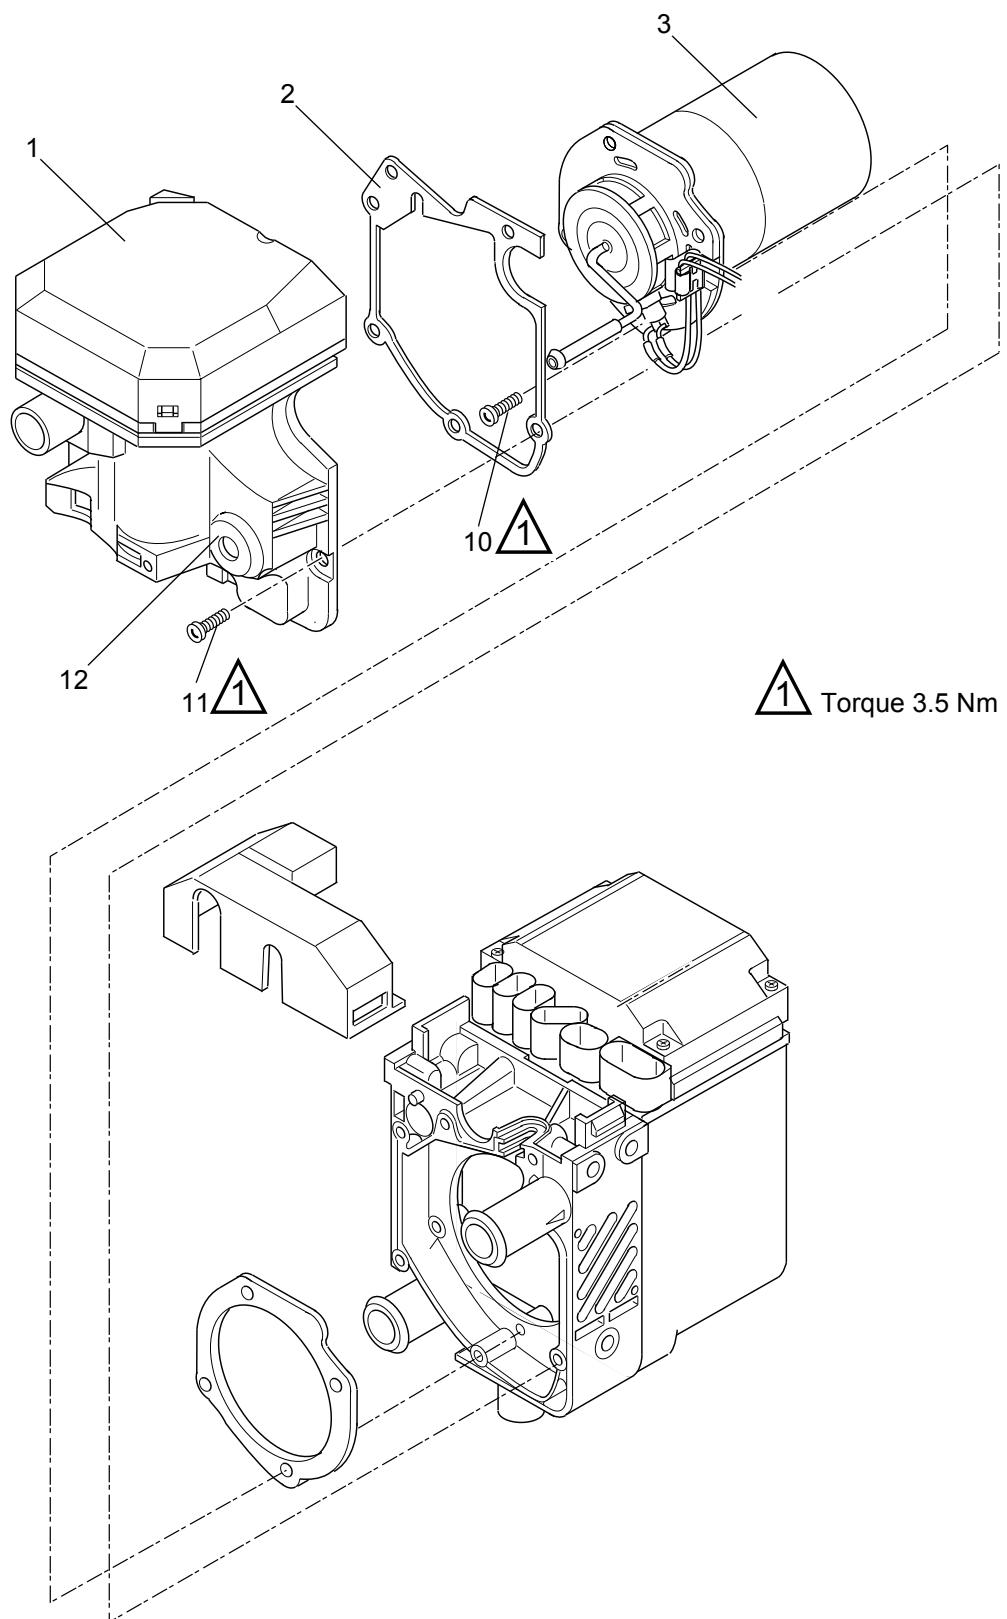

Fig. 902 Heater Disassembly
1. Carefully lever off cover (6, Fig. 902).
3. Remove screws (11).
4. Withdraw combustion air fan (1) from burner housing (5) and fuel pipe (9).
5. Remove gasket (2) and discard.
1. Replace gasket (12, Fig. 902) of combustion air fan (1) as required.
2. Position new gasket (2) on burner housing (3).
3. Slide combustion air fan (1) onto fuel pipe (9) to bring fan into installation position.
4. Secure combustion air fan (1) with screws (11). Torque tighten screws to  $3.5 \pm 0.3$  Nm.
7. Plug on cover (6) and engage.
2. Push grommet of cable of glow plug/flame sensor (8, Fig. 902) out of burner housing (5).
3. Remove screws (10).
4. Withdraw burner insert (3) with glow plug/flame sensor (8) from burner housing (5).
5. Remove gasket (4) and discard.
4. Withdraw burner insert (3) with glow plug/flame sensor (8) from burner housing (5) and remove.